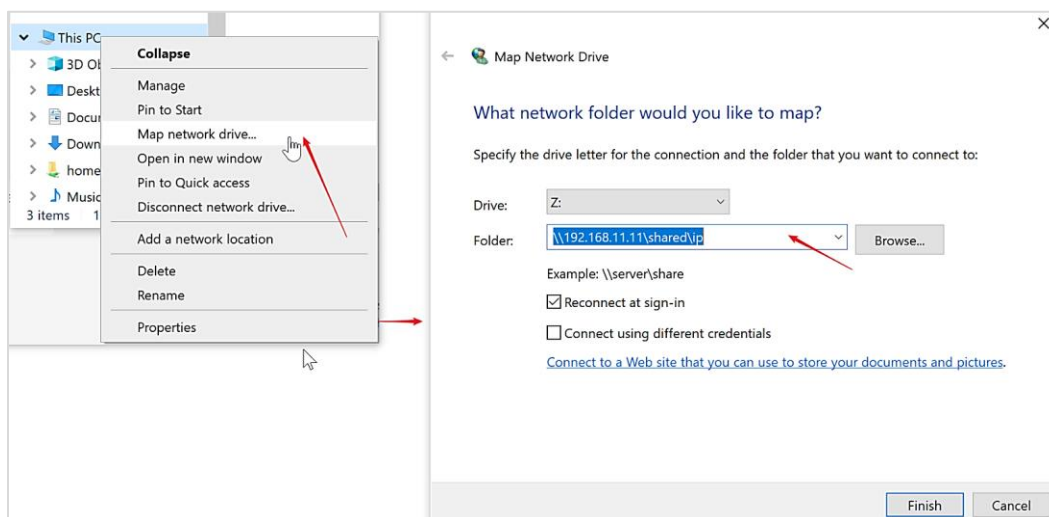

Figure 2.143. Map Network Device
IP Public Path does not support network path in Windows Operation System (OS), for example, \\192.168.11.11\shared\ip. Workaround for this is to map the Network Drive with the network path and set the path with a local disk (Figure 2.143).